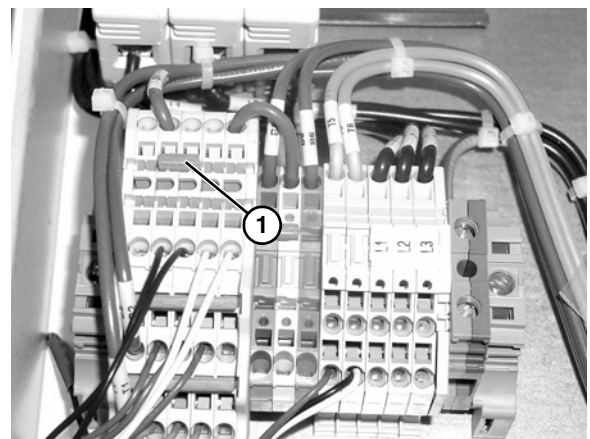
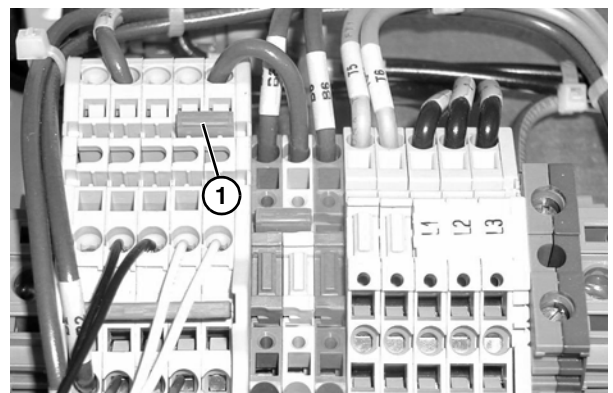

Figure 17
Figure 18
2. Move the internal jumper (**Figure 17, item 1**) to the left to bypass the device in the blue port. Move the jumper (**Figure 18, item 1**) to the right to bypass the device in the green port.
Jumper in the “left” or blue port position (**Figure 17, item 1**). The user selectable port will function the same as the blue port.
Jumper in the “Right” or green port position (**Figure 18, item 1**). The user selectable port will function the same as the green port.